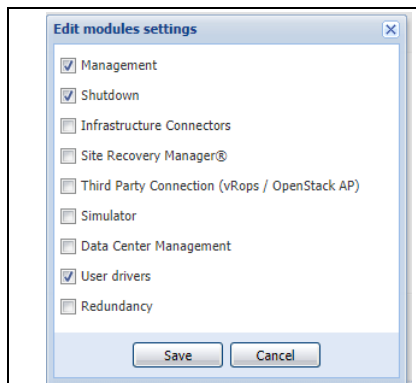
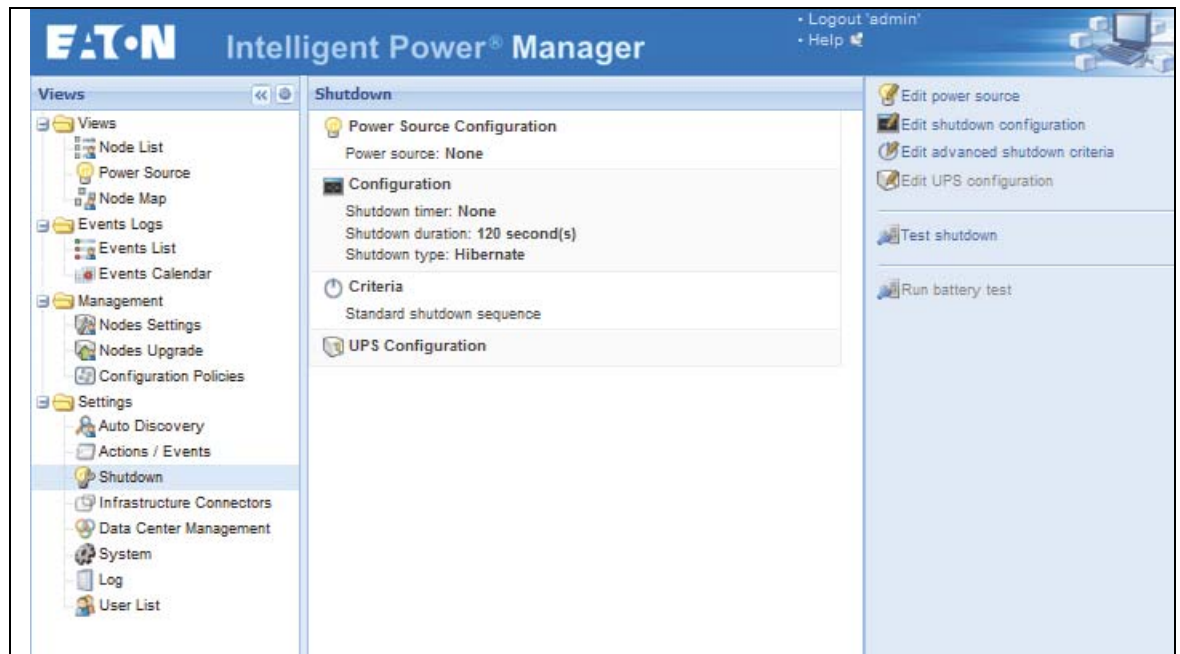

Figure 5. Edit Modules Settings Dialog
Figure 6. Shutdown Displays in the Settings Menu Hierarchy
2. Select the **Shutdown** checkbox on the Edit modules settings dialog (see Figure 5). The Shutdown menu selection displays in the Settings menu hierarchy list (see Figure 6).